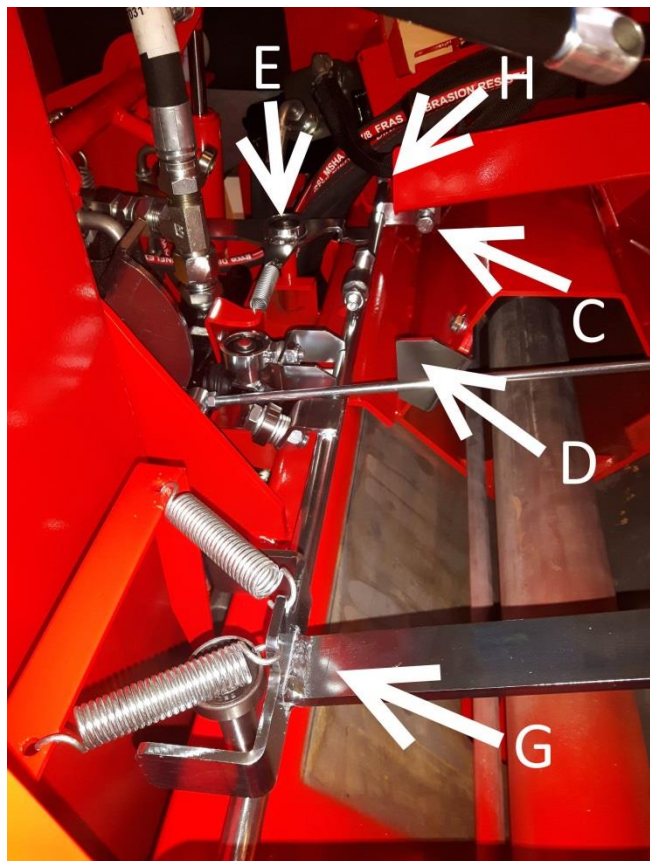
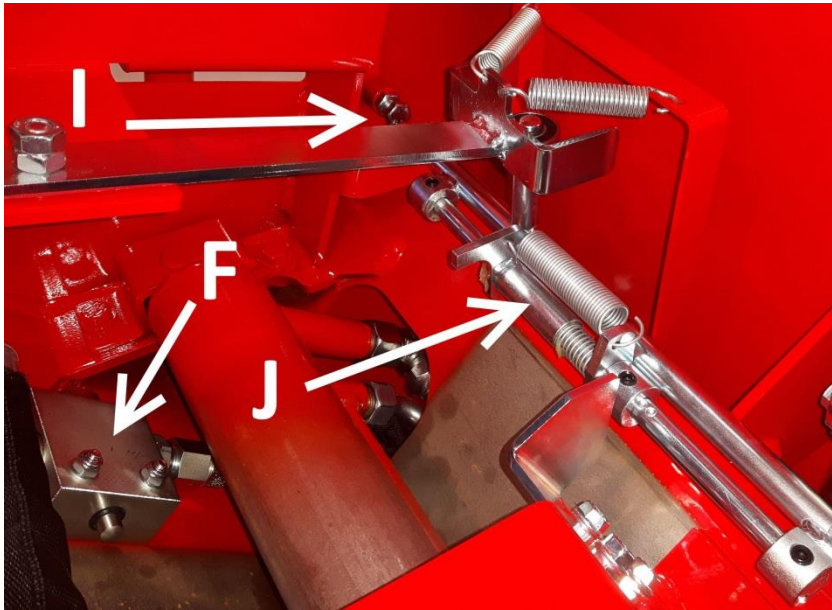

Figure 18
Figure 19
**Note!** Turn the limiter plate to the correct position according to the thickness of the log. (See Figures 18 and 19).
4. Adjustment screw **C** defines the stroke length of the splitting cylinder, i.e. the phase in which the splitting valve turns from the splitting position to the reverse position (Figure 18). If the stroke is too short, for example (i.e. the splitting cylinder does not go sufficiently close to the splitting blade), rotate adjustment screw **C** further in relation to plate **D** and vice versa.
5. Valve **F** (Figure 19) stops the cylinder after a splitting motion. The initial position cannot be adjusted.
Note: The motion booster spring **J** (Figure 19) **must be able to move freely for the splitting beam to return to the starting position unhindered.**
Note: splitting lever **G** moves the same splitting bar as splitting activation lever **E**. (Figure 18)
The extreme positions of the splitting valve can be limited with bolts **H** and **I** (Figure 18 and Figure 19). The bolt adjustments should not be changed. Instead, worn bolts should be replaced with new ones!
7. Motion booster sleeve J and bar in Figure 19 (every 200 hours)